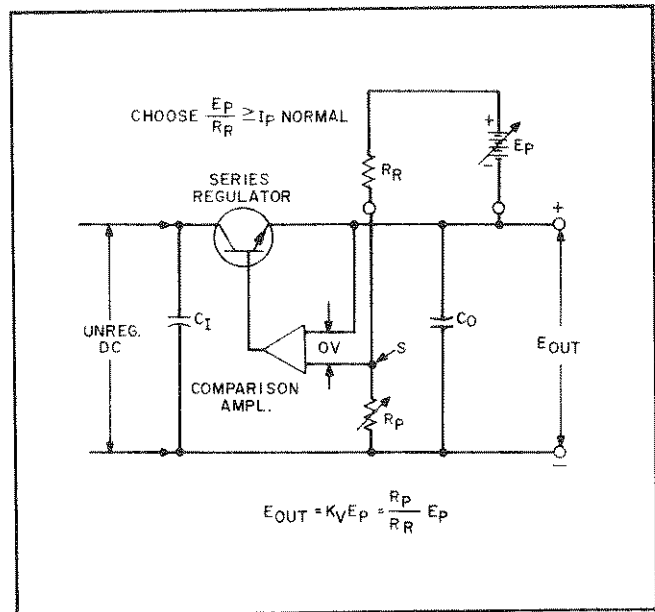
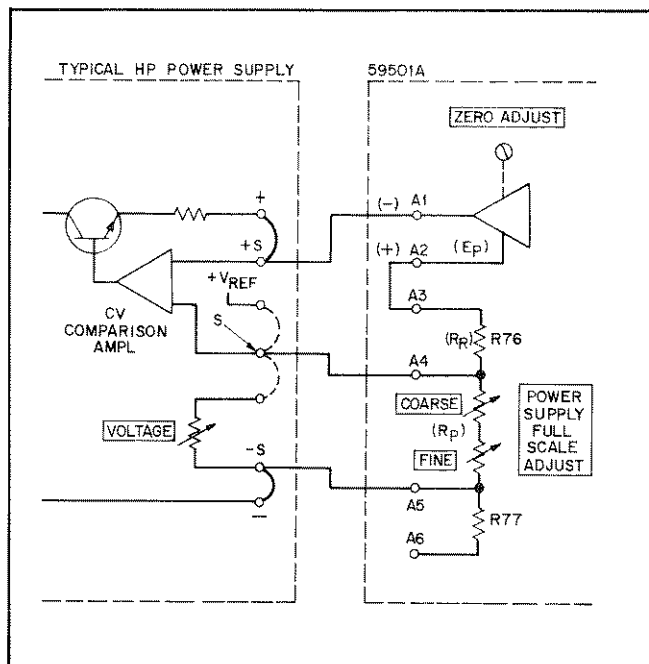

Figure 3-4. Voltage Programming with Variable Voltage Gain
Figure 3-5. Typical Connections for CV Programming
3-41 Figure 3-4 illustrates the method by which a power supply's constant voltage output can be programmed using an external voltage with a voltage gain dependent upon the ratio of R_P to R_R . Note that this method is no different from the circuit normally used for constant voltage control of the output except that an external reference (the programming voltage source) has been substituted for the internal reference. On most supplies, external terminals are available so that the connections shown in Figure 3-4 can be accomplished without any internal wiring changes. In all HP remotely programmable power supplies, the summing point S is made available, and the configuration of Figure 3-4 can always be accomplished using the external programming voltage source E_P and external precision wire-wound resistors R_P and R_R . (R_R should not exceed 10k.) As indicated by the equation in Figure 3-4, R_P can be selected so that the resulting voltage gain is either less or greater than unity. It is possible to use the front panel control on the supply as the voltage gain control R_P .
3-42 **Constant Voltage.** Figure 3-5 illustrates the connections required for the 59501A to program the constant voltage (CV) output of a typical HP power supply. Note the similarities between Figures 3-4 and 3-5. The 59501A includes R_R (R76), R_P (COARSE and FINE POWER SUPPLY FULL SCALE ADJUST), and E_P (59501A output between terminals A1 and A2). The extra resistor (R77) between terminals A5 and A6 is used only when programming power supplies above 300 volts.
3-43 As shown in Figure 3-5, the supply's internal reference voltage ($+V_{REF}$) and VOLTAGE control are disconnected (dotted lines) and are replaced with the 59501A's output voltage and POWER SUPPLY FULL SCALE ADJUST. Note that in the unipolar mode, 59501A output terminal A1 is negative with respect to A2. This polarity must be complied with when making connections. The connections shown in Figure 3-5 are typical for most supplies.